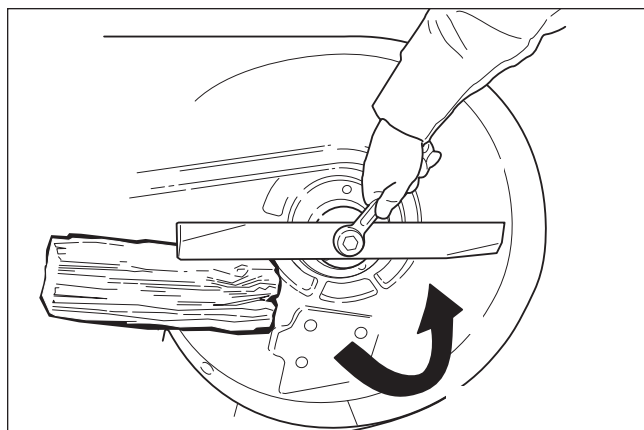

Figure 21. Loosening the Mower Blade for Removal
1. To remove the mower blade, use a 1" wrench on the flats of the spindle shaft and remove the mower blade mounting bolt with a 15/16" wrench (Figure 21).